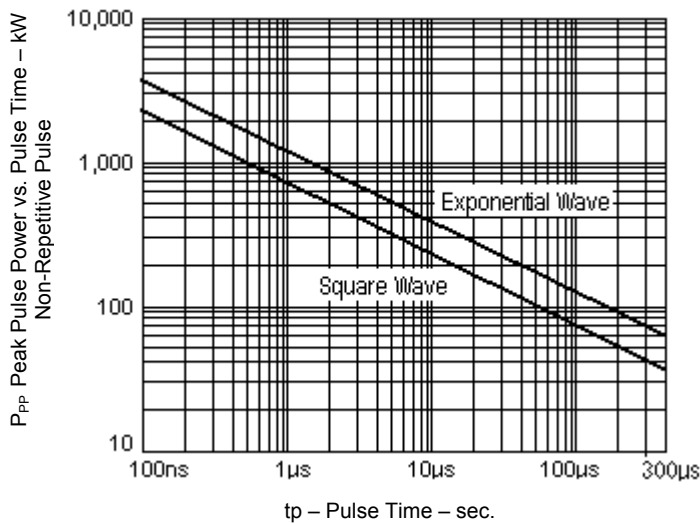

FIGURE 1
NOTE: The 1MHz damped oscillatory waveform (3) has an effective pulse width of 4 μ s. Equivalent peak pulse power for the 200KP48CA at each of the pulse widths represented in RTCA/DO-160D for waveforms 3, 4 and 5a (above) have been determined referencing Figure 1 herein as well as Application Notes 104 and 120 (found on Microsemi's website) and are listed below.